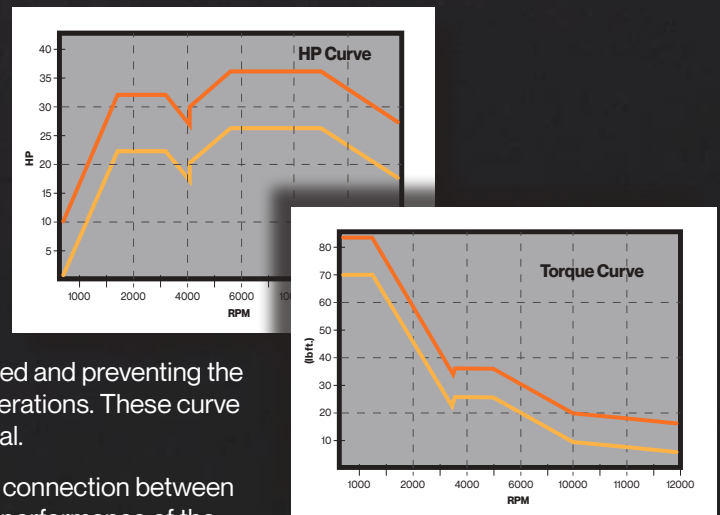

Fig. 4 - Machine Tool HP & Torque Curves
**The HP and torque curves:** Your machine may not have 25 horsepower across the whole RPM envelope, even though its pasted with a big **25HP** on the front panel. There is a specific area in the RPM range where the stated maximum torque is reached. It is wise to know where your peak torque regions (Fig. 4) are, allowing you to use the tool at its optimal speed and preventing the machine from possibly stalling during heavy traditional milling operations. These curve charts are usually found and provided within your machine manual.